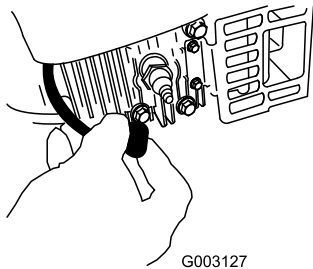

Figure 27
2. Disconnect the spark plug wire from the spark plug (Figure 27) before performing any maintenance procedure.